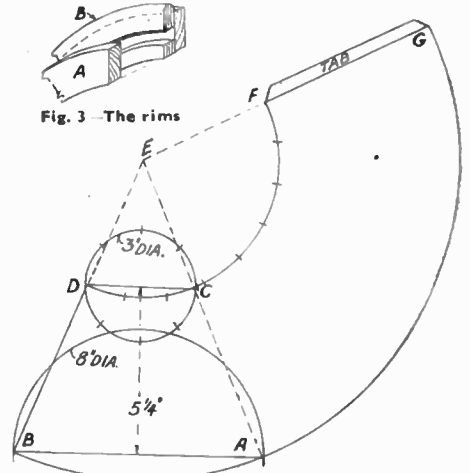

Fig. 3—The rims
When the two side layers (A) are glued on, the piece (G) will be held securely. See that an even margin is kept all round in the gluing on, then round off the edges of the projecting inner disc. A small cross section of the three pieces is given in Fig. 3, the near side piece (A) being drawn away to adequately show the groove or channel in the middle section.